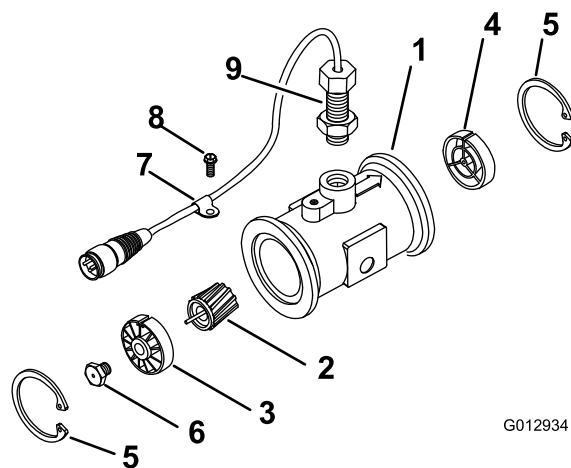

Figure 55
- Remove the retainer ring on the upstream side (Figure 55).